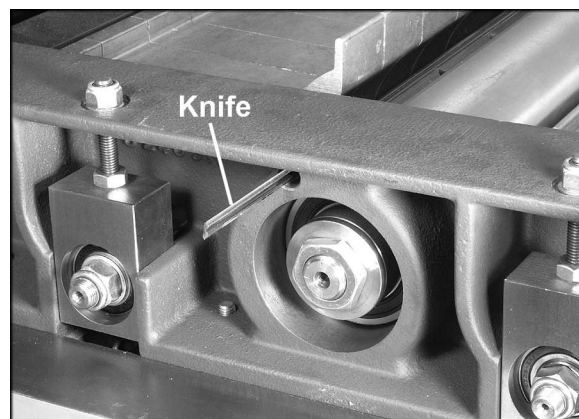

Figure 9
5. Align the knife and carefully slide it through the hole in the side of the bearing casting (Figure 9).